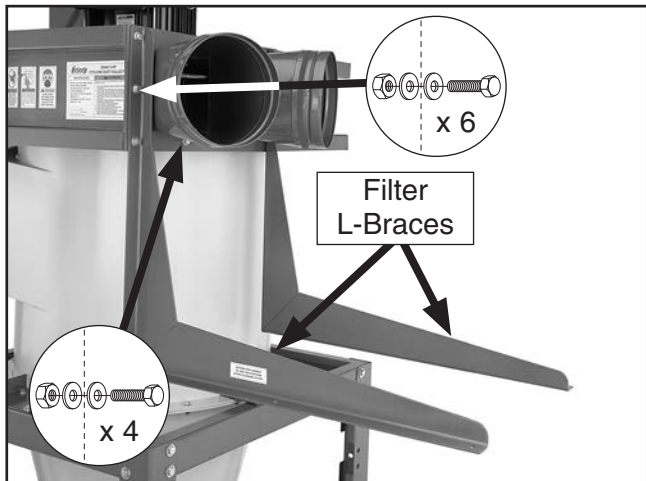

Figure 24. Filter L-braces mounted to blower housing.
27. Attach outlet port to blower housing with (4) $\frac{5}{16}$ "-18 x 1" hex bolts, (8) $\frac{5}{16}$ " flat washers, and (4) $\frac{5}{16}$ "-18 hex nuts (see **Figure 24**).
28. Attach filter L-braces to either side of outlet port on blower housing with (6) $\frac{5}{16}$ "-18 x 1" hex bolts, (12) $\frac{5}{16}$ " flat washers, and (6) $\frac{5}{16}$ "-18 hex nuts (see **Figure 24**).